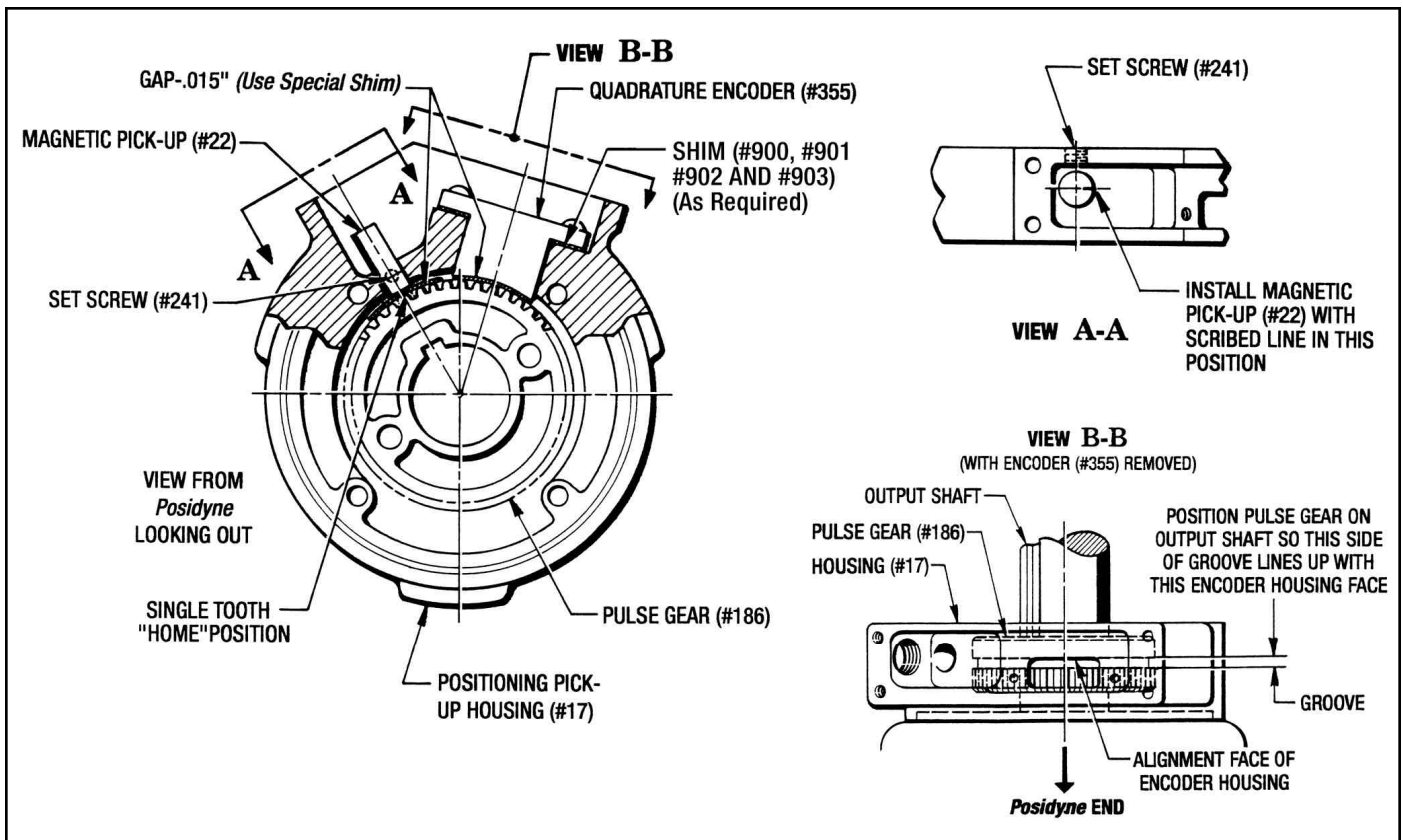

Figure 9.9 - Installation of Position Sensors
(See Figures 9.9 and 10.4)
2. Attach the Housing (#17) to the Posidyne Output Housing with (2) Screws (#76) and (2) Washers (#257).
3. Slide the Pulse Gear (#186) onto the output shaft and align as shown in View B-B in Figure 9.9. Tighten Set Screw (#154)
### A. QUADRATURE ENCODER (See Figure 9.9)
3. Check the Gap between the Pulse Gear and the Encoder with the Special .015" Shim that you made. If necessary, remove the Encoder and place Shims (#900 to #903) under the Encoder. (Usually .015" is sufficient.) Re-attach the Encoder and re-check the Gap. (See Figure 9.9)
### B. MAGNETIC PICK-UP SENSOR (See Figure 9.9)
2. Insert the Magnetic Pick-Up Sensor (#22) into the hole with the **Scribed Line** in position as shown in *Figure 9.9, View A-A*